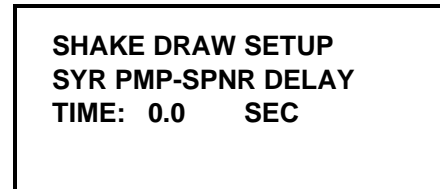

Figure 98
2. After the BTR-SYR PMP DELAY time has elapsed, the syrup pump is activated. The SYR PMP-SPNR DELAY allows time for the syrup pump to achieve dispensing pressure in the syrup line and freezer door before the spinner motor is activated and the draw valve opens. Recommended setting: 0.0 seconds. (See Figure 98.)